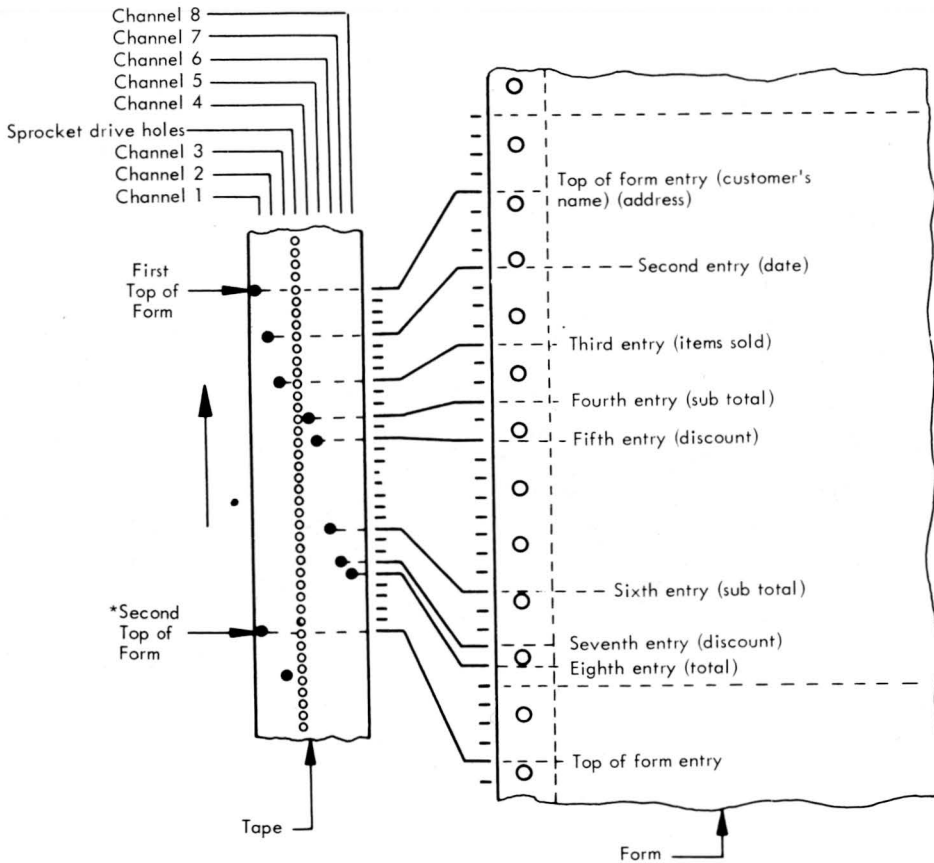

Figure 37 Tape loop preparation
The control tape allows the programmer to skip, rather than space through, unused sections of a form. Eight-channel tape is used, giving the programmer eight skip instructions including 'top of form' which uses tape channel 1. Figure 37 shows how the control tape punch relates to the printers. The hole punched in tape channel 1 allows the form to be skipped to the first line that is to be printed ('top of form'), in this case the customer's name. This line is the reference point from which all other skip points are counted and depends upon the form being correctly
- Step 1 Place a length of tape and the required form on the tape loop guide as shown in Figure 37.